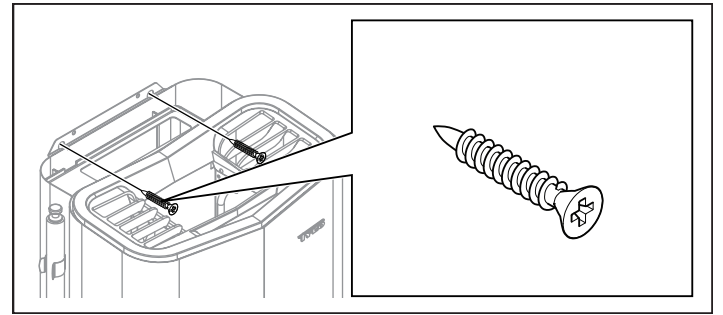

Figure 12: Lock screws for bracket
10. Lock the heater into place with two lock screws (see Figure 12).